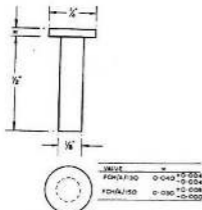

Fig. 4. Valve setting distance piece
- (2) Fit an 8 B.S. grub-screw into the tapped hole in the armature to restrain the movement of the disc holder.
- (3) Place a distance piece (fig. 4) in the valve seat.